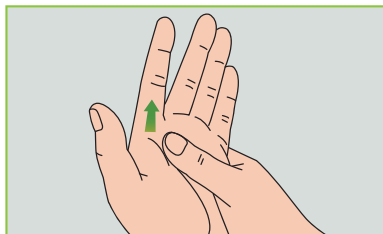

Figure 91
**6** Before taking a blood sample, wash your hands or use an alcohol wipe to clean the area. Washing your hands in hot water increases blood circulation. You can also massage from wrist to finger to promote better blood circulation (Figure 91).